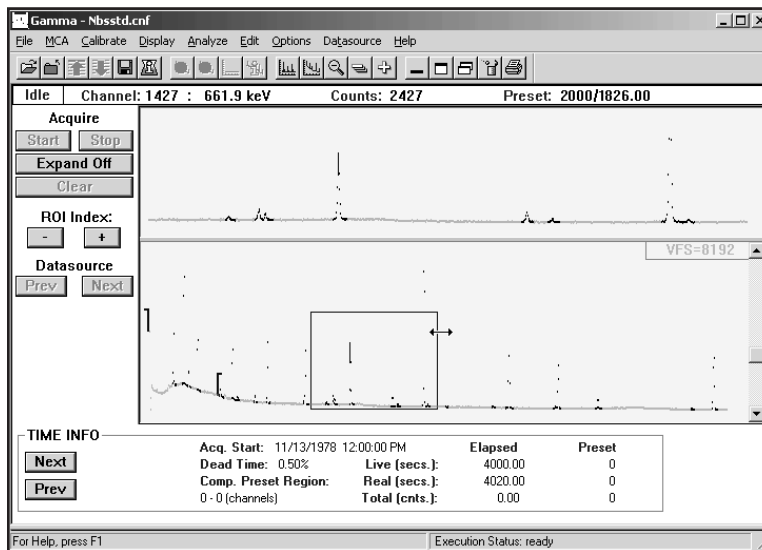

Figure 19 Stretching the Expand Rectangle
1. Move the mouse cursor to the side you want to change until it changes into a horizontal or vertical double-headed arrow (Figure 19).